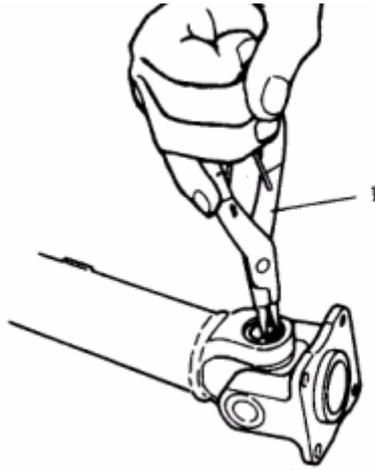

FIG.12-5
(1) Using snap ring pliers(special tool), remove 2 circlips. (FIG.12-5)